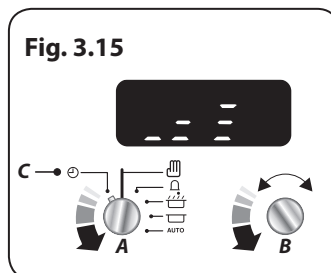

Fig. 3.15
Turn the **Timer (A)** knob to the **Clock (C)** setting. Turn the **Adjusting (B)** knob counter clockwise until the tone bars are displayed (**Fig. 3.15**).